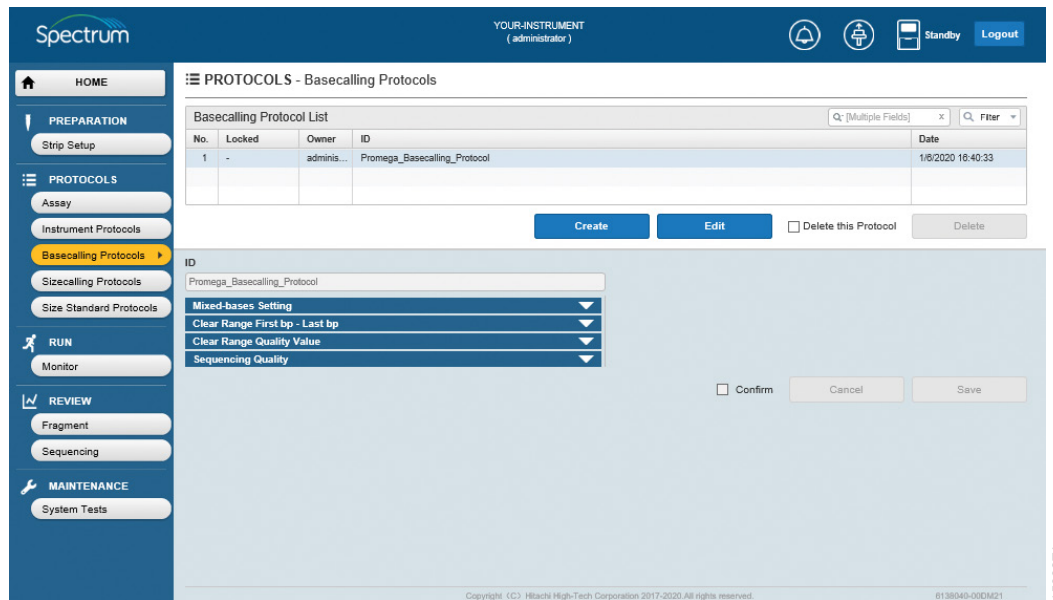

Figure 45. 'Basecalling Protocols' screen with active Edit button.
1. Select **Basecalling Protocols** under PROTOCOLS from the Main Menu of the 'HOME' screen (Figure 12) and then select the Basecalling Protocol ID in the Basecalling Protocol List that you want to delete (Figure 45).
2. Check the "Delete this Protocol" box and select **Delete** (Figure 45).